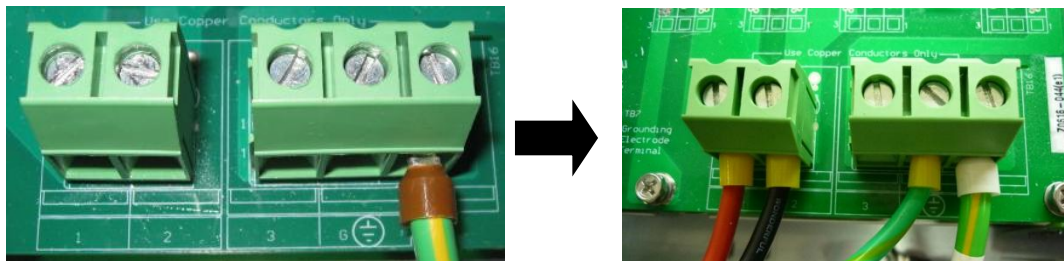

Figure 7.2.6: Connect the AC Cables to Correct Positions
Figure 7.2.6 shows the AC cable connections when a 208V grid system is applied with the PV inverter. L-phase cable is connected to position (1) pole, Neutral cable is connected to position (2) pole and ground cable is connected to the ground symbol pole. On the other hand, please ensure the setting of the AC DIP switch has been set correctly with the applied grid system.